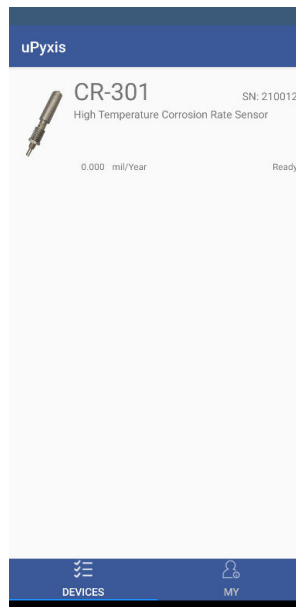

Figure 13.
3. If the connection is successful, the CR-301 and its Serial Number (SN) will be displayed (Figure 13).